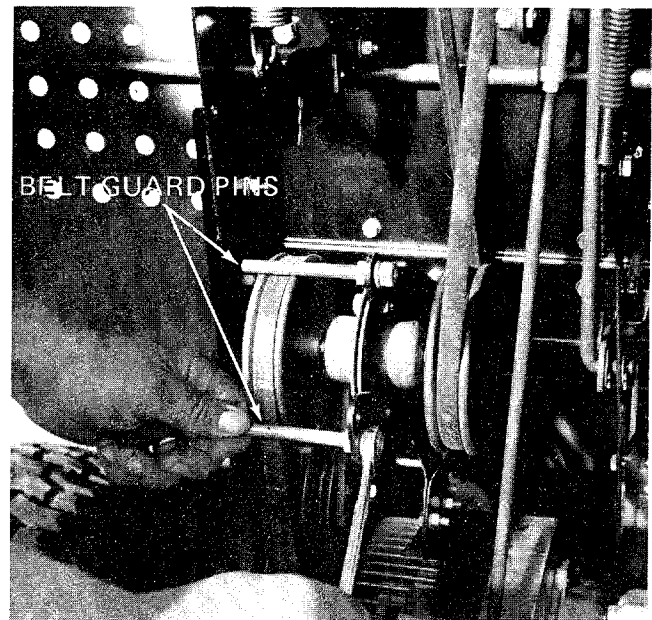

FIGURE 26.
4. Remove the two belt guard pins on the pulley assembly. See figure 26.